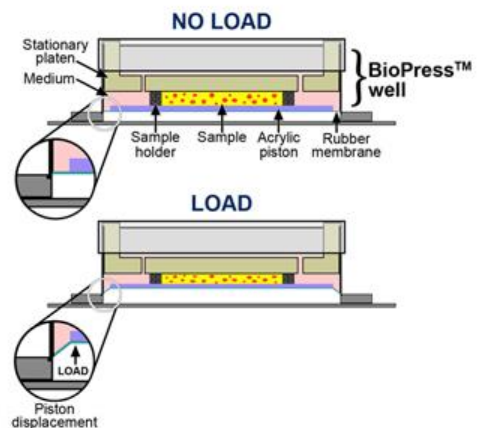

Figure 11. Application of unconfined compression to cells in a well of a BioPress™ culture plate
- Utilizes regulated air pressure to deflect flexible-bottomed **BioPress™ culture plates** (page 28) compressing a tissue sample or 3D culture between a piston and a stationary platen (Fig. 11).